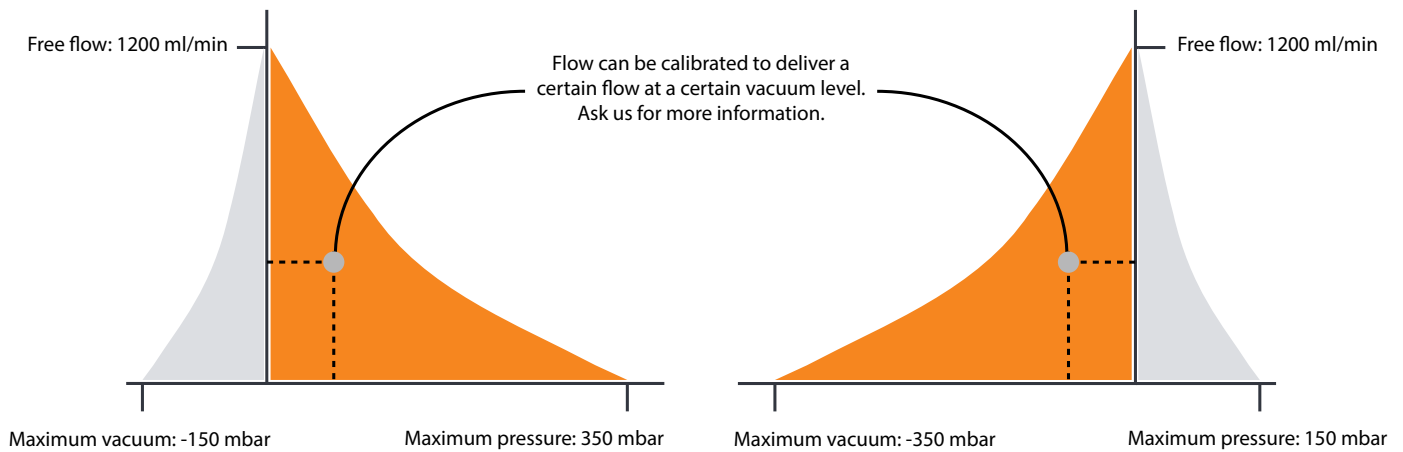

Figure 1: General flow performance for Xavitech P1500 (left) and V1500 (right) pumps
- 3) Switch power on and off: Note that the power has to be switched off on the supply connector (see Figure 1) and that the capacitor has to be placed between the pump and the switch. This is because of the current that the electro-magnet generates. The pump will be damaged if the switch is placed on the ground connector. The pump will in this case not consume any power, but the microcontroller will perform the start-up procedure which takes up to 3 s (depending on default pump frequency) when the power is turned on. During this time, the pump adjusts the stroke length to reach its calibrated length. The regulation adjusts the stroke length for every pump stroke thus it depends on the pump frequency.